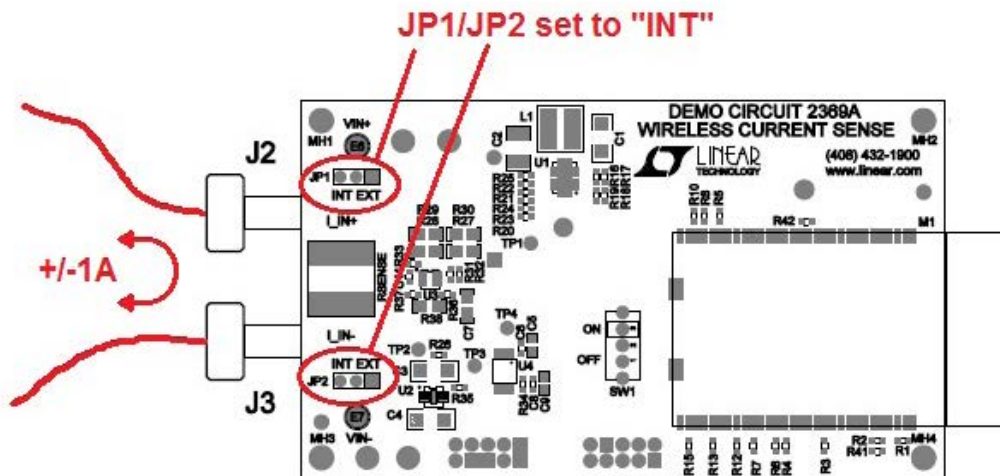

Figure 1. DC2369A Connections and Jumpers for Internal Sense Resistor
2. The only external connection needed to the DC2369A is for the current to be measured. The DC2369A circuitry does not draw its power from this current – it only uses it to develop a small voltage drop across the included  $10m\Omega$  sense resistor. The DC2369A is designed to measure up to  $\pm 1A$  full-scale current, developing a  $\pm 10mV$  voltage drop across the sense resistor. Connect the current to be measured using the banana connectors (J2 and J3). Set jumpers JP1 and JP2 to the INT position (to use the internal sense resistor). See Figure 1.